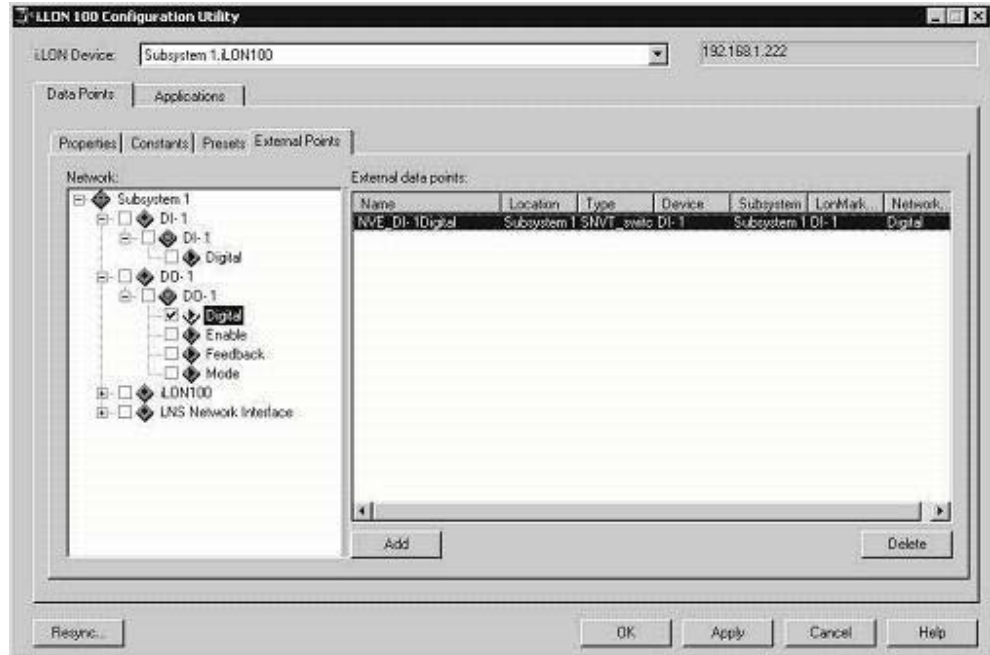

Figure 4.4 External Data Points Tab
2. Select the **Data Points** tab and then the **External Points** tab. The **External Points** tab appears as shown in Figure 4.4.